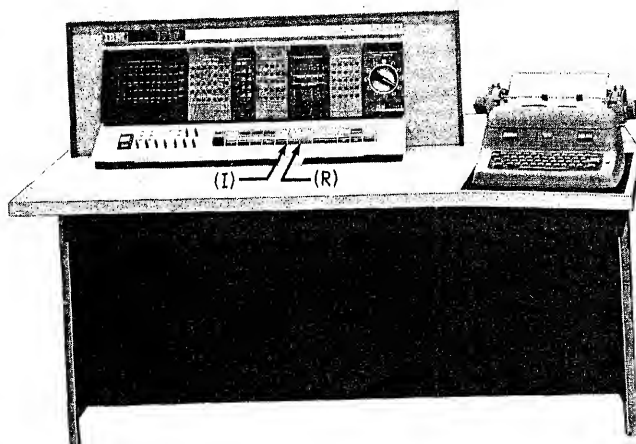
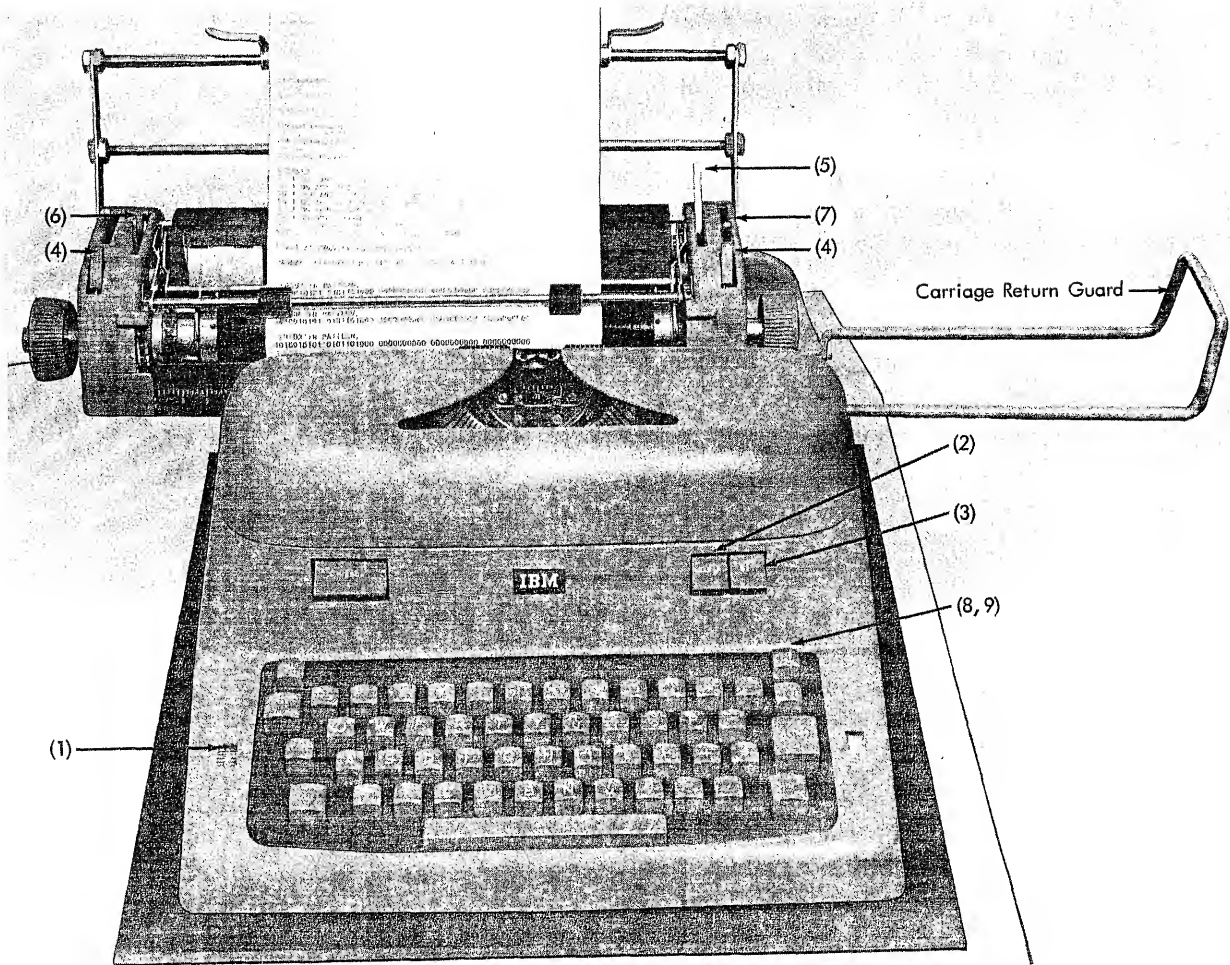

Figure 50. IBM 1620 CPU with I/O Typewriter
Figure 51. I/O Typewriter, Manual Controls and Keys
The 1620 console typewriter (Figures 50 and 51) is the principal communicating link between the operator and the system.
The 1620 console typewriter is used to enter data and instructions directly into core storage. Off-line use is not possible because the keyboard (Figure 51) is locked except when entering data. Pressing the console Insert key (see Figure 50, I) unlocks the keyboard and permits data to be entered into core storage, starting at location 00000. Each depression of a typewriter key enters a character into core storage one location higher than the previous character. As many as 100 characters can be entered from the typewriter. After the 100th character is entered, an automatic release is initiated and the machine returns to manual mode. The Start key may then be used to start program operation at 00000.
If a record mark is required in core storage following the last character entered, the Record Mark key on the typewriter must be pressed before pressing either the R-S key on the typewriter or the Release key on the console (Figure 50, R). Pressing either key again locks the keyboard and gives the computer an end-of-input/output indication.
The numbers preceding each of the following headings refer to numerals on Figure 51 designating particular keys, etc., (1), for example, designates the Impression indicator.
1. Impression Indicator. The lever under this window can be positioned in settings from 0 to 10, and determines the force with which the type bars strike the paper. The higher the indicator setting, the harder the type bars strike. To test for the correct setting, move the indicator up until the comma and period print distinctly but not heavily. Use a higher setting for multiple copies, but be sure that the multiple copy lever (7) is also correctly set before finally adjusting the impression.